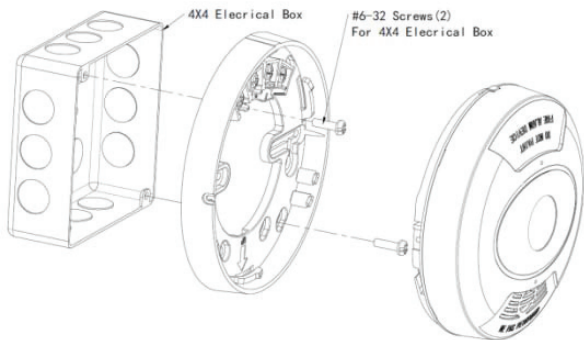

Figure 1. Base Installation
1. Mount the S-C8210 / S-C8211 base onto a 4x4 electrical box, see Figure 1.